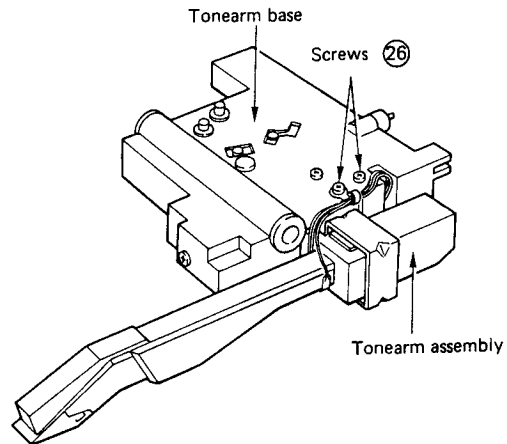

Fig. 20
- 1) As shown in Fig. 20, remove the two screws (26) , and then remove the tonearm from the tonearm base.